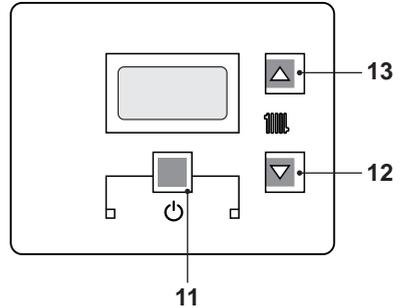
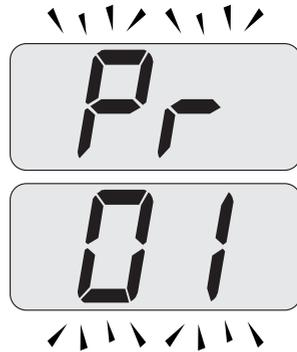
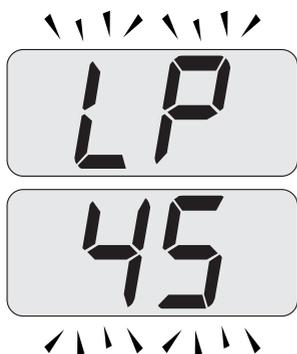

Fig. 9.11
Fig. 9.12
Fig. 9.13
- Enter in "programming mode" by pressing keys 11 - 12 - 13 (Fig. 9.11) for 10 seconds at the same time until the letters **Pr** that alternate with code **01** are displayed on the LCD display, indicating that "parameter 01"(Fig. 9.12) has been activated.
- Press keys 12 and 13 (Fig. 9.11) at the same time until the LCD display displays the letters **LP** that alternate with the heating water temperature value (e.g. **45**), indicating the activation of the "chimney sweep function" at minimum output (Fig. 9.13).
- Press keys 11 - 12 - 13 (Fig. 9.11) at the same time again to exit the "chimney sweep mode" and return to the previously set boiler status (Fig. 9.16).